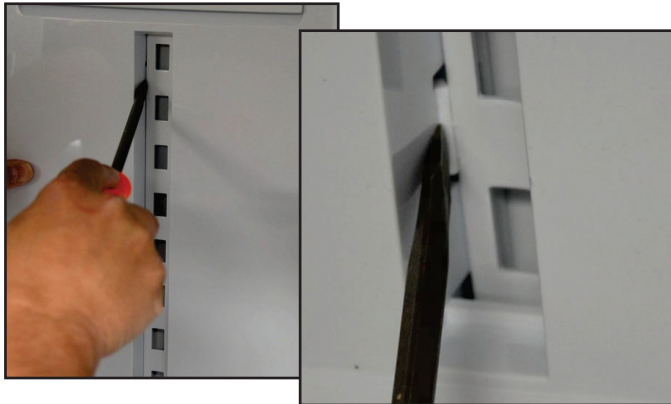

FIGURE 25
2. Release 6 locking tabs, there are 2 tabs at 3 locations along the center shelf rail. See *Figure 25*.